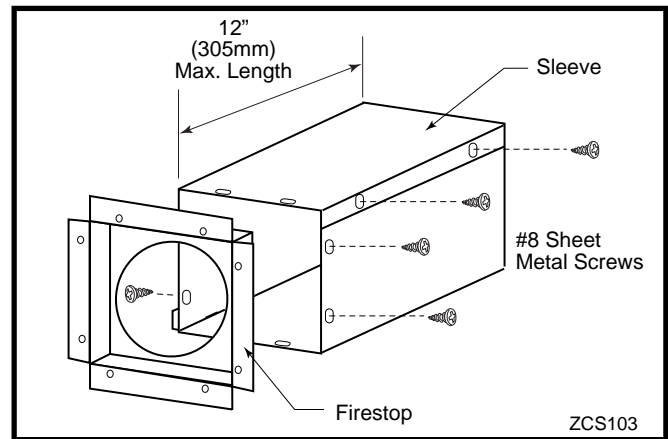

Fig. 25 Assemble the wall sleeve and firestop.
3. Measure the wall thickness and cut the wall sleeve sections to proper length (MAXIMUM 12"). Assemble the sleeve with the #8 sheet metal screws supplied. Attach the firestop plate to the sleeve end with the holes. (Fig. 25) **NOTE:** The wall sleeve is required in combustible walls only.
2. Measure the wall thickness and cut the wall sleeve sections to proper length (MAXIMUM 12"). Assemble the sleeve with the #8 sheet metal screws supplied. Attach the firestop plate to the sleeve end with the holes. (Fig. 25) **NOTE:** The wall sleeve is required in combustible walls only.
3. Install the Wall Firestop/Sleeve assembly into the wall cutout and fasten the firestop to the wall cutout framing members. (Fig. 25)